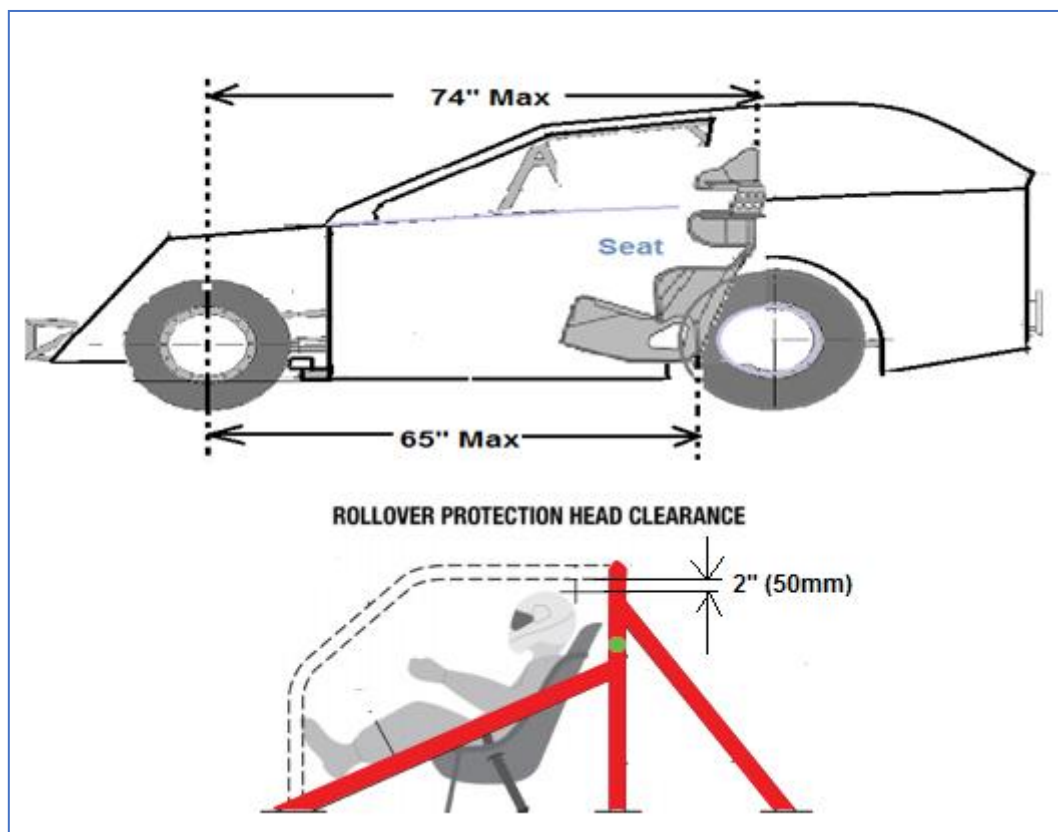

Figure 14
20.7 Bottom rear of seat will not be more than 65" back measured from either upper ball joint (*Figure 14*).
20.8 Seat may be tilted back for added driver head clearance; however, no portion of the seat may be back more than 74" as measured above (*Figure 14*).
20.9. The minimum helmet clearance inside the roll cage is to be 50mm from all roll bars. Measurement is taken from the underside of the overhead roll cage bars to the top of the helmet with the driver seated and in full harness. Must be checked when the car is Daylighted for registration (*Figure 14*).